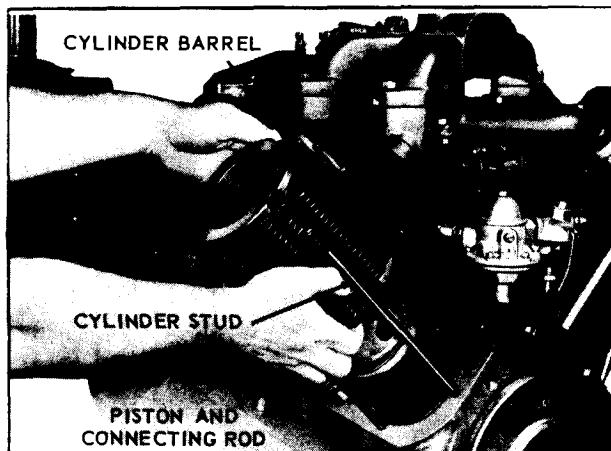
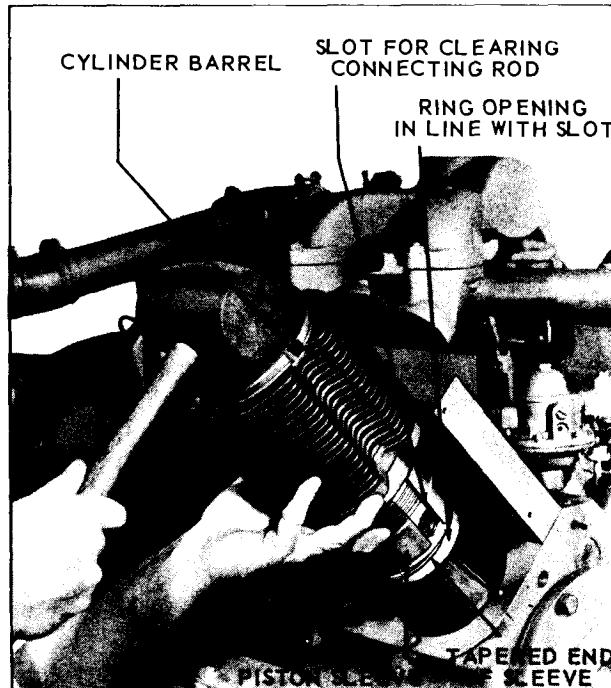

Fig. 36
Fig. 37
### CYLINDER BARREL (Fig. 36, Fig. 37)
**In reassembly;** place a new gasket at bottom of cylinder barrel. It will be necessary to compress the piston rings in order to slip the cylinder over the piston, as shown in Fig. 37. A **piston sleeve** can be made from the lower portion of a scrap cylinder. The sleeve is  $2\frac{1}{4}$  inches long with a  $7/8$  inch wide slot. The inside diameter is tapered from the middle to the bottom;
Slip sleeve over and slightly below top of piston. Extension of piston out of sleeve will act as a pilot for mounting cylinder. Lubricate cylinder bore and press barrel on to piston and against sleeve. Force piston into bore by tapping cylinder barrel with a rubber mallet, as illustrated in Fig. 37. When bottom ring of piston is securely in cylinder, lower sleeve and remove thru slot. Continue to press barrel over piston until it is snug against crankcase. Mount cylinder studs and remainder of parts per 'Cylinder Head' paragraphs of reassembly.